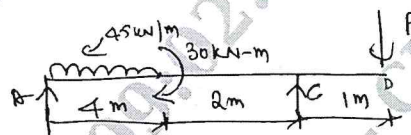

Fig.Q6(b)
- b. For the beam shown in Fig.Q6(b), find the load 'P' to have equal reactions at A and C. Draw the Binding Moment and Shear Force diagram indicating values at significant points. Locate the point of contraflexure. (12 Marks)